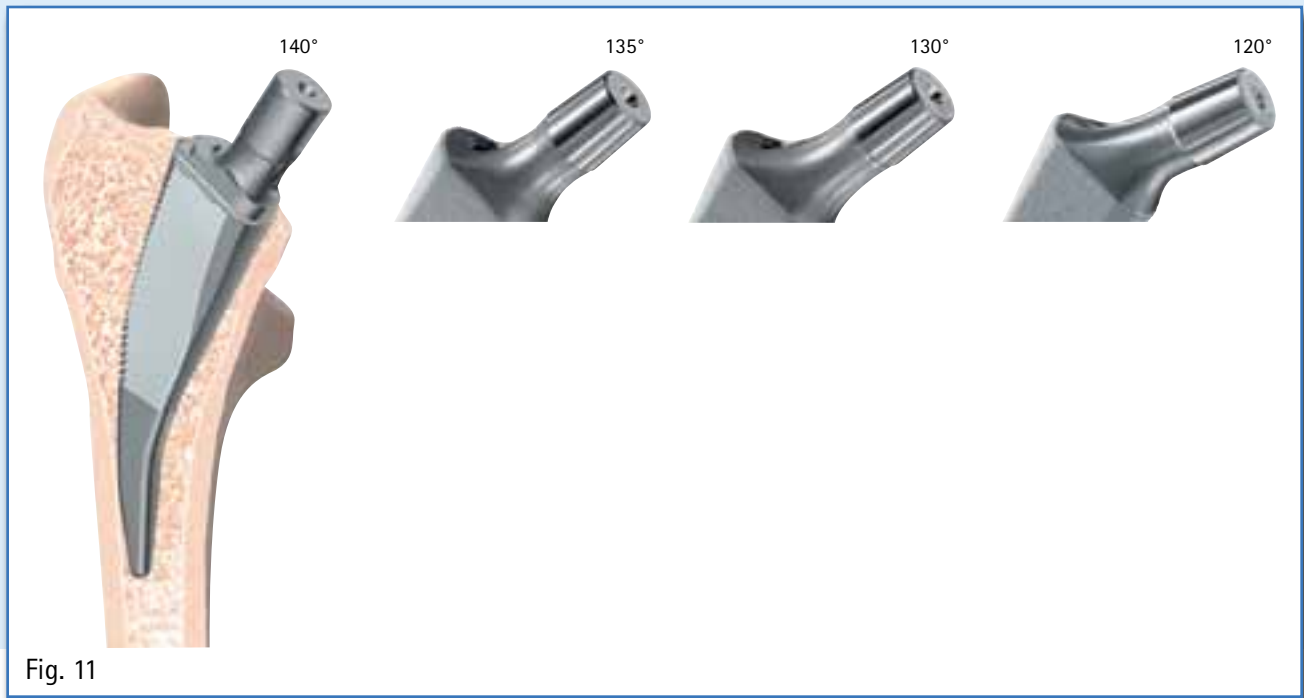

Fig. 11
- Choose the appropriate trial neck adapter and attach it to the rasp. (Fig. 11)